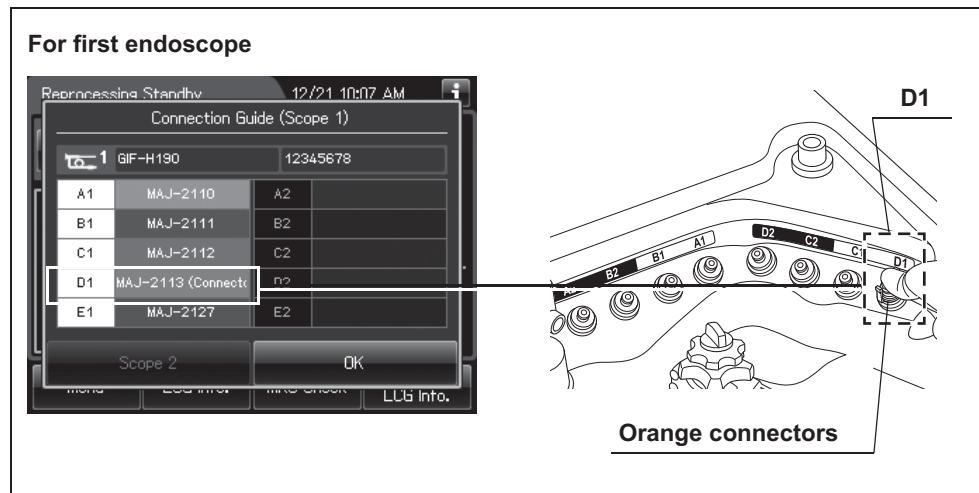

Figure 6.22
- 3** Insert the reprocessor-side connector of the MAJ-2138 connecting tube into the connector of the same color (refer to the Connection Guide screen) of the reprocessing basin by pushing in until it clicks. For detail, refer to Figure 6.22.